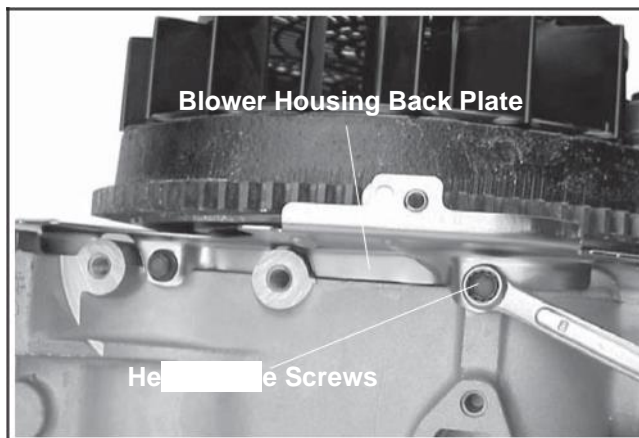

Figure 11-49. Installing Blower Housing Back Plate.
1. Install the blower housing back plate and two hex. flange screws. See Figure 11-49.